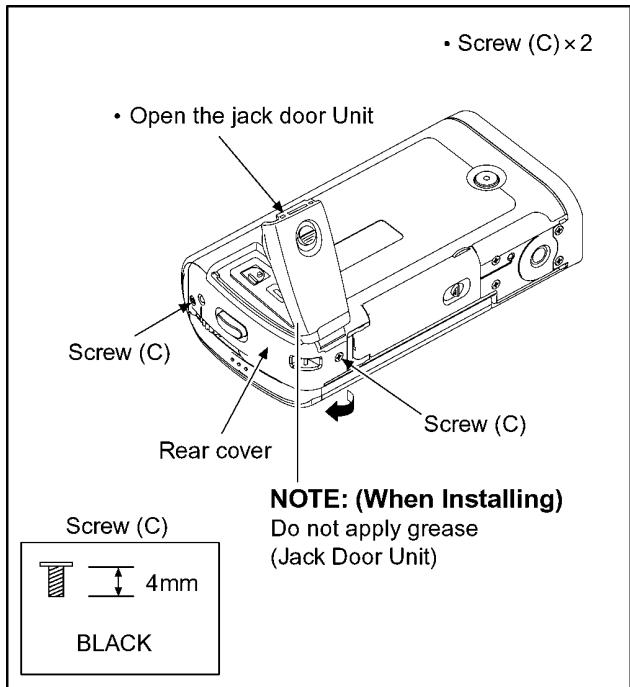

Fig. D3
| 3 | Rear cover | Fig. D3 | 2 Screws (C) Rear cover |